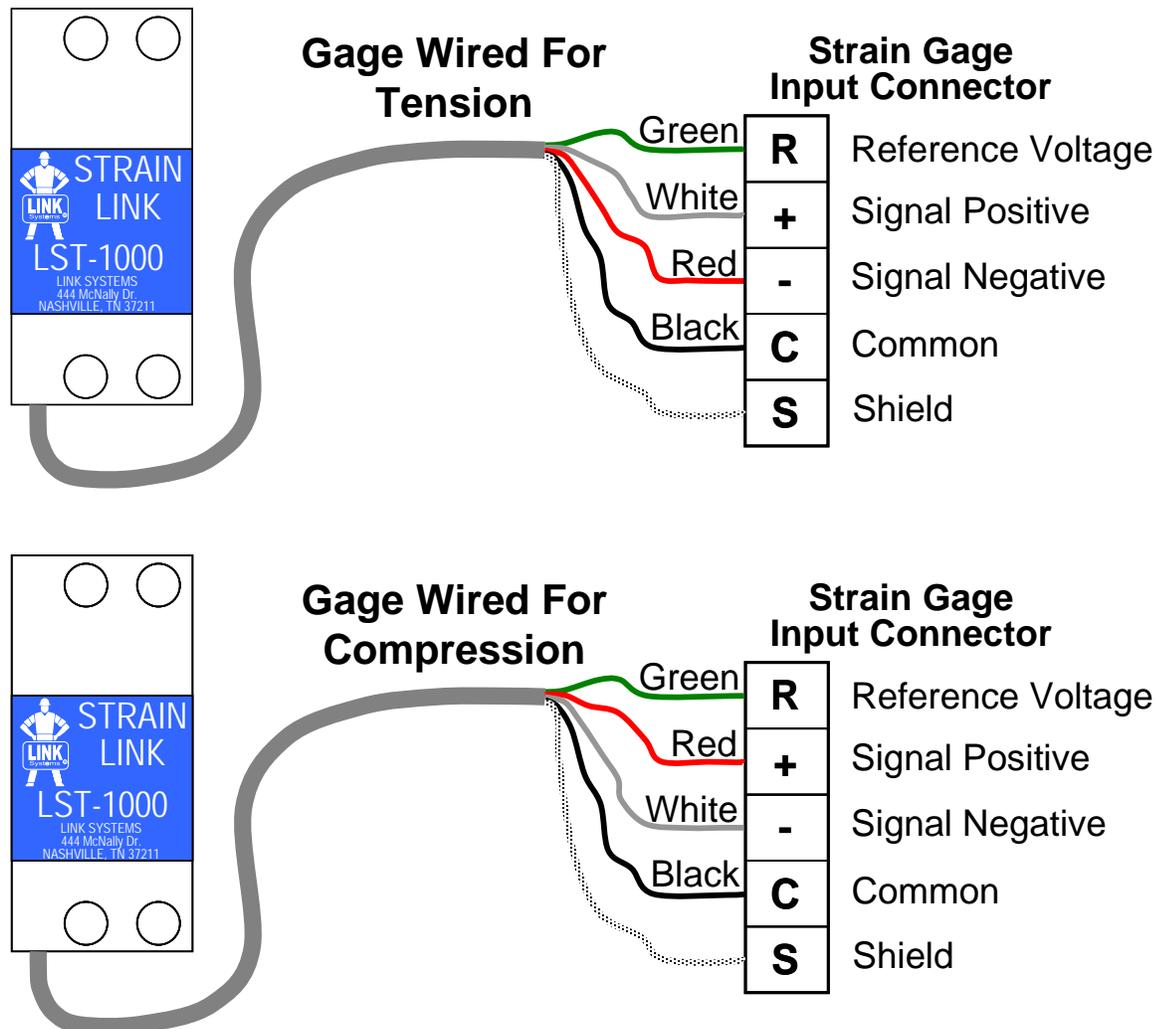

Figure 74: Strain Gage Wiring
- 4) Wire the channel connectors as shown in Figure 74. Cover or tape the shield, to avoid accidental shorting to any other point.